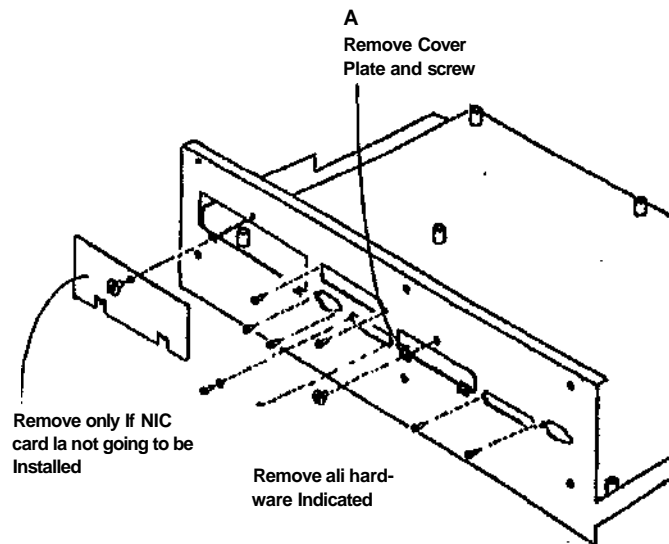

Figure 8 Hardware to be removed from old Connector Panel Plate
17. (Figure 8): Remove the remaining hardware and connectors from the old Connector Panel Plate.